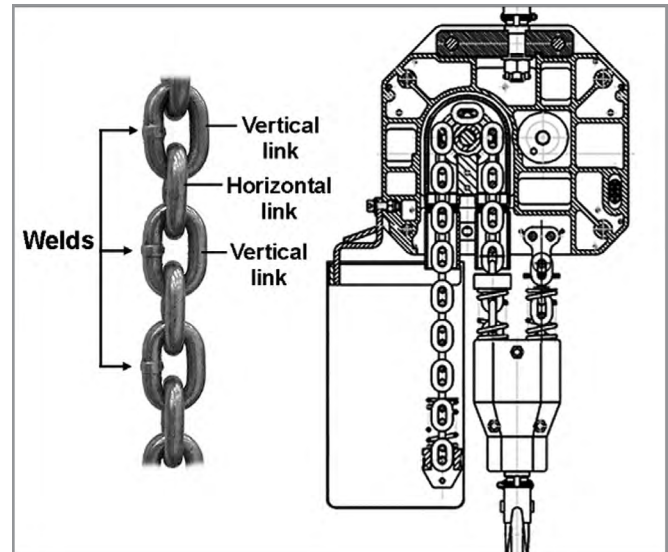

Figure 16
4. Using a C-link, connect the new chain to the old chain. Be sure vertical link welds face away from load sprocket (see Figure 16).
Vertical and horizontal are determined from the relationship with the load sprocket. Vertical links will be guided by the centre slit in the load sprocket. Horizontal links will engage in the oval pockets on the sprocket. See Figure 16.